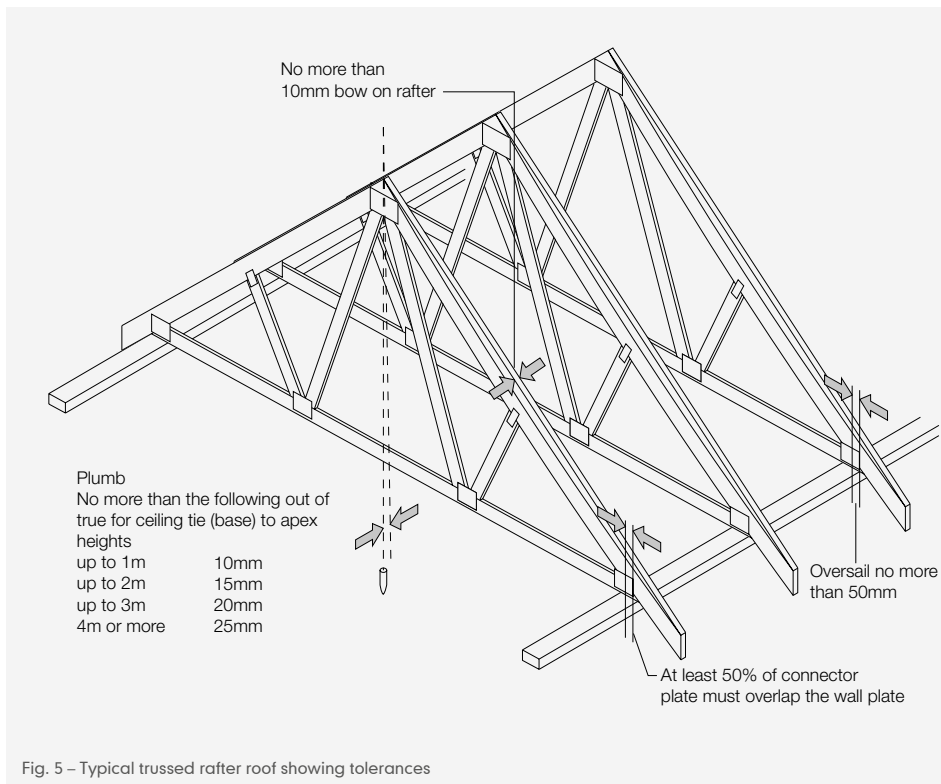

Fig. 5 – Typical trussed rafter roof showing tolerances
- 2 Roof structure is to an acceptable squareness, tolerance and to specified minimum pitch (Fig. 5).